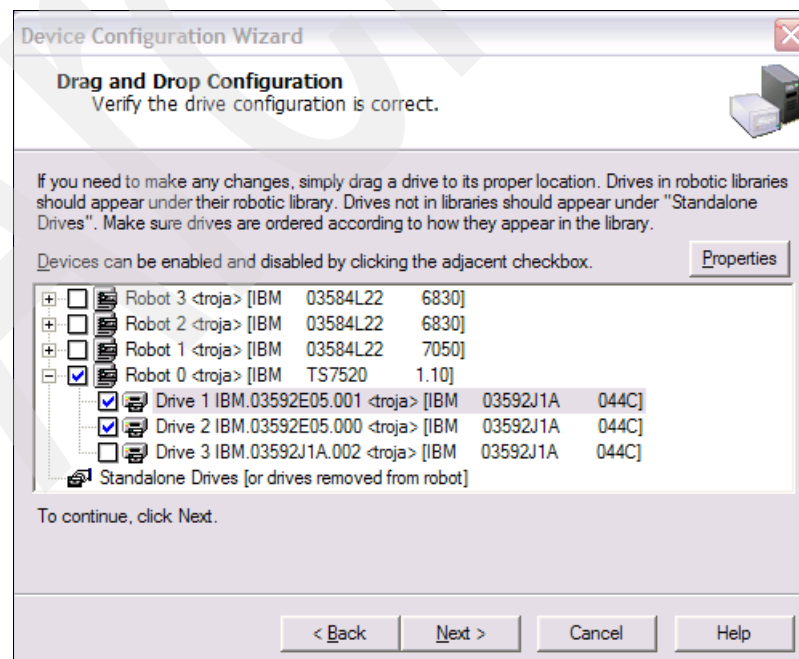

Figure 10-12 NetBackup device configuration
- On the next panel we select the TS7530 library only (as shown in Figure 10-12) and submit these changes to the NetBackup database by clicking **Next**.